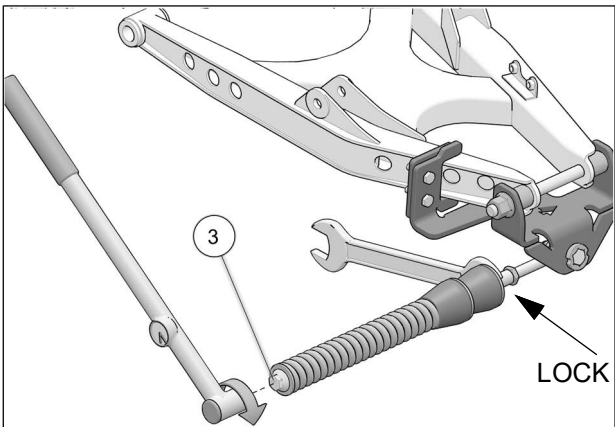

Fig. 17
18. Verify that spring assembly bolt (3) is tightened to the recommended torque specification: 75 Nm [55 lb•ft]. Make sure to lock in position, the large nut in front of the rubber cone dampers. Refer to Fig. 17